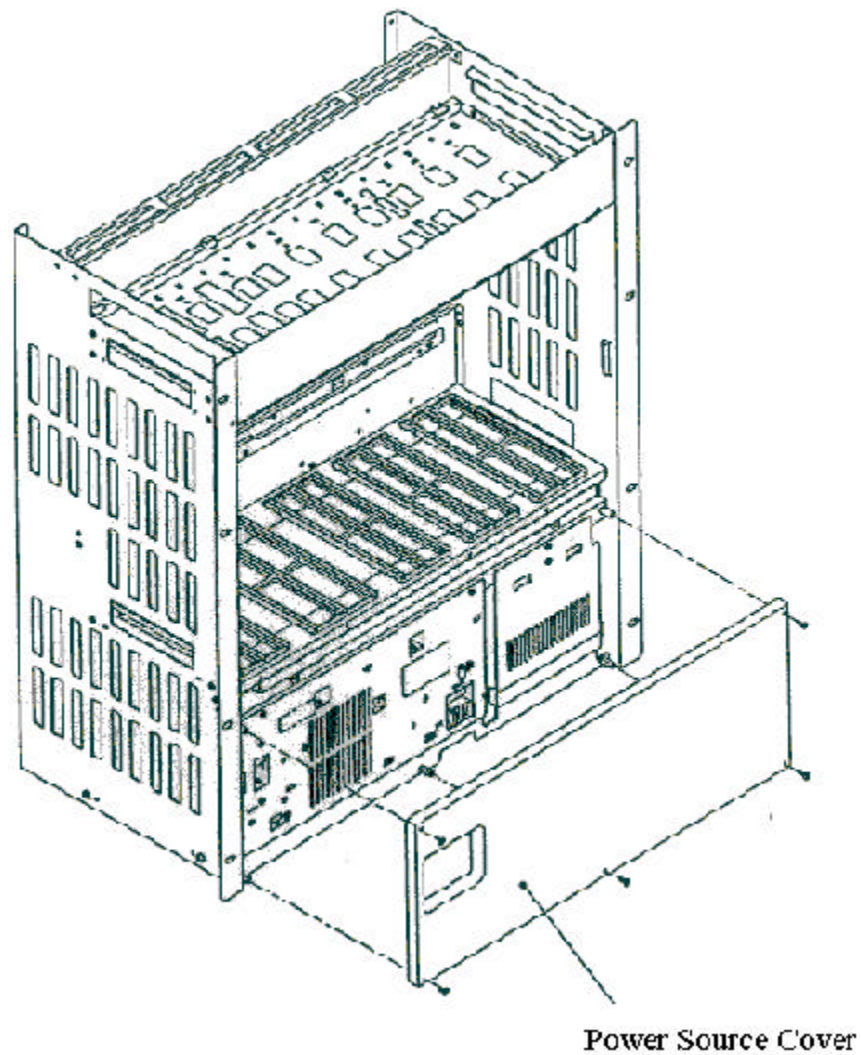

Figure 2-14: Removal of the Power Source Cover
4. Remove the 5 M3 screws in the power source cover and remove it, as illustrated in Figure 2-14.